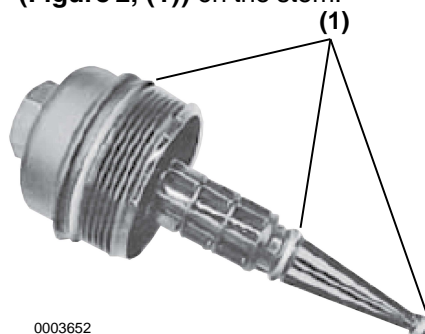

Figure 2
7. Replace the three O-rings (**Figure 2, (1)**) on the stem.